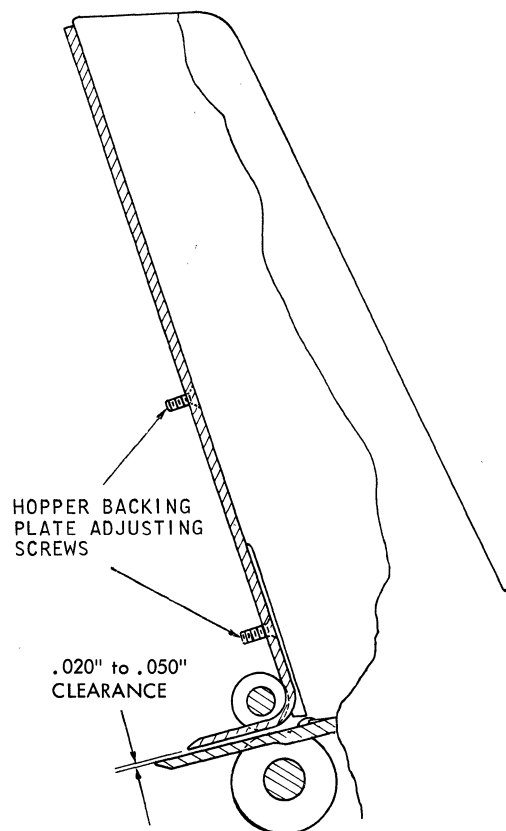

Figure 2-12. Hopper Back Plate Clearance
4. Adjust the hopper back plate card guide fingers $.020''$ to $.050''$ clearance to the hopper bed plate fingers (Figure 2-12).